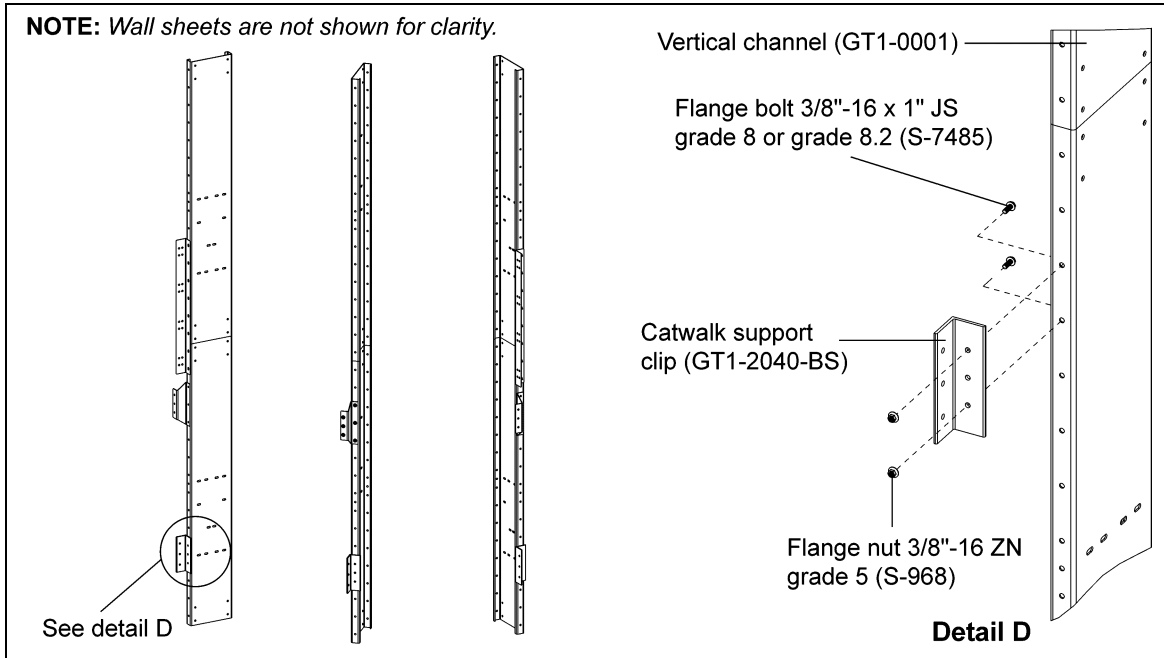
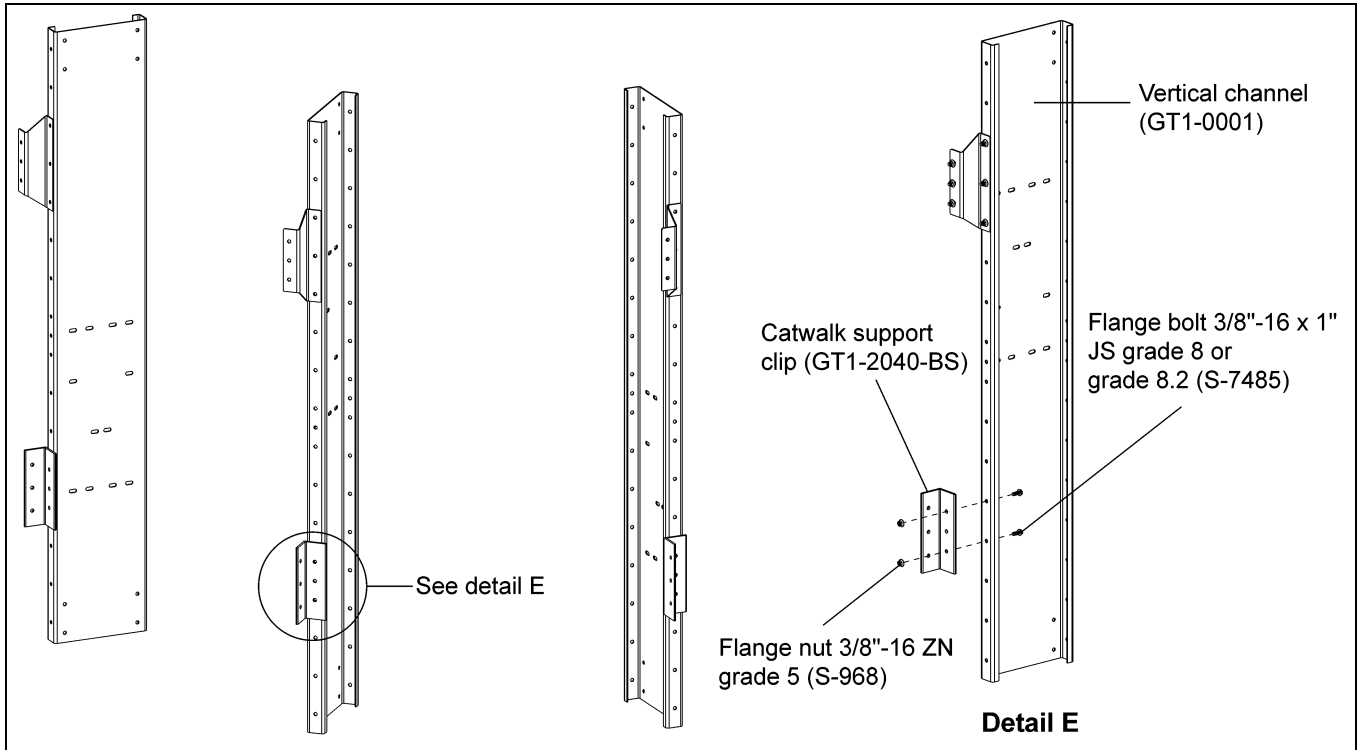

Figure 6G Offset Catwalk Support Clip Installation
Figure 6I Roof Hatch Catwalk Support Clip Installation
1. Install catwalk support clips (GT1-2040-BS) to vertical channels (GT1-0001). Support clip can be installed on each vertical channel as the wall sheets are installed using 3/8"-16 x 1" JS grade 8 or grade 8.2 bolts (S-7485) and 3/8"-16 ZN grade 5 nuts (S-968). (See Figure 6G below and Figure 6I on Page 48.)